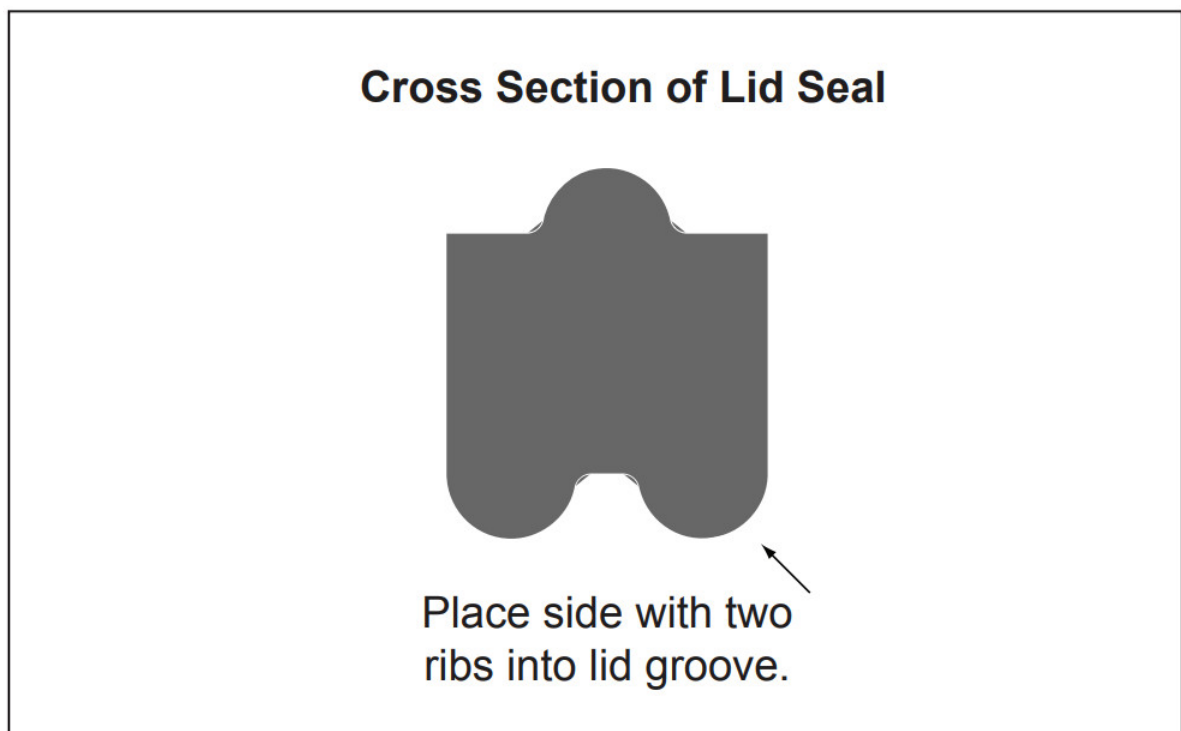

Figure 4. Cross Section of Seal
- c. Note that one (1) side of the lid seal has two (2) ribs and the other side has one (1) rib. Insert the new lid seal into the lid groove, placing the side with two (2) ribs into the groove. See Figure 4.